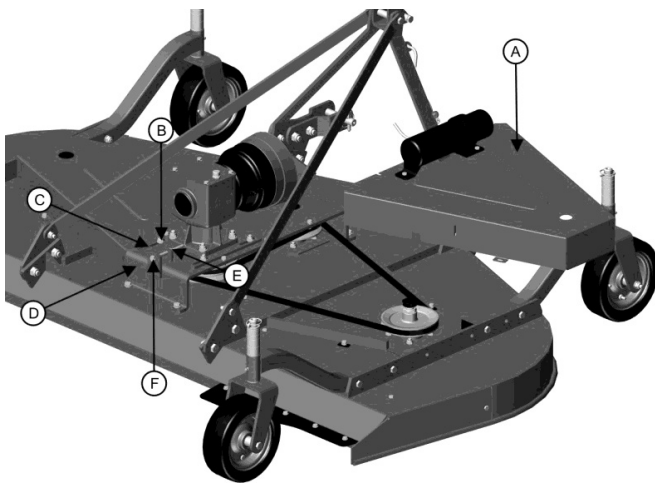

Figure 18
1. Remove the belt cover [Figure 18, Item A].
3. Loosen the four (4) nuts [Item B] that hold the gearbox support plate [Item C] to the gearbox support [Item D].
5. Turn the adjustment bolt clockwise. This will cause the gearbox support plate to move backwards, tensioning the two (2) belts at the same time. Stop turning the bolt once the proper tension has been reached.
1. Remove the belt covers [Figure 18, Item A].
8. Turn the adjustment bolt clockwise. This will bring the gearbox support plate to move backwards, tensioning the two (2) belts at the same time. Stop turning the bolt when the proper tension is achieved.
9. Retighten the four (4) nuts that hold the gearbox support plate [Item C] to the gearbox support [Item D].